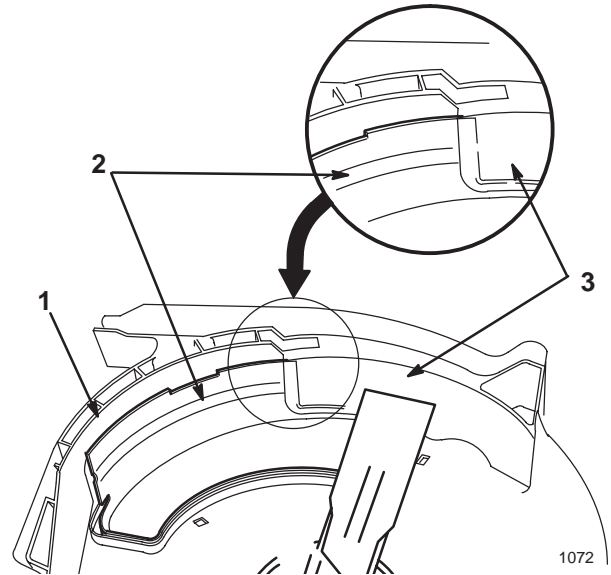

Figure 39
8. Check the clearance between blade tips and the baffle, ensuring that there is no contact (Fig. 39).
Note: The baffle must go behind the front deck baffle and between the blade and toe guard to prevent contact with the blade (Fig. 39).
Note: The mulch plate baffle must go behind the front deck baffle and between the blade and toe guard to prevent it from contacting the blade (Fig. 39).
10. Check the clearance between the blade tips and the baffle, ensuring that there is no contact (Fig. 39).